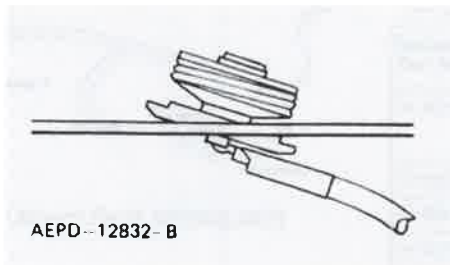

Figure 5 Bushing Assembly Insertion
5. See Figure 5. The bushing assembly is now in a position to drop into the hole in the roof. It should be tilted at a slight angle and fed into the 19mm (¾") hole. The threaded top will *not* fall through the hole.